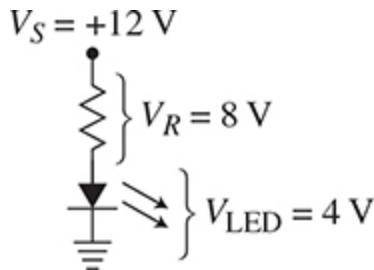

Figure 5.3 An example problem showing the circuit voltages. The sum of the series voltage drops equals the source voltage.
Refer to Fig. 5.3. Note here that the LED is a semiconductor diode that must be forward biased to emit light. The anode connects to the positive side of the supply voltage. LEDs don't really have a voltage rating as such, but they do have a specific voltage drop across them when they are emitting light. This voltage drop varies with the color of the LED. The range is
Figure 5.3 shows a white LED that normally has about 4 V across it in normal operation. It is to be powered by a 12-V battery voltage source (V_S). Connecting the LED directly to the 12-V source will exceed its rating and the LED will be destroyed. The resistor in series with the LED is used to absorb the other 8 V. What you need to know is the recommended current (I) in the LED. The current is usually in the 5 to 20 mA range, depending upon the brightness you want. Let's assume 10 mA (0.01 A). With this information, you can calculate the value of the resistor (R) value needed.